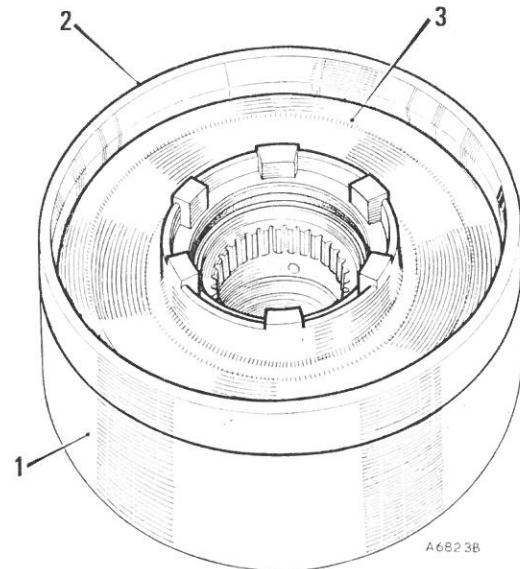

Fig. Fa.53
- (10) Refit the reverse gear booster piston with the boss facing outwards, using Service tool 18G 1103 (see Fig. Fa.53).
- (11) Refit the top gear piston into its cylinder with the boss facing outwards.
- (12) Fit the top gear piston and cylinder into the clutch housing, with the cut-aways on the rear outer edge of the cylinder opposite the holes in the clutch housing.
- (13) Refit the top gear piston return spring, spring retainer, and circlip.